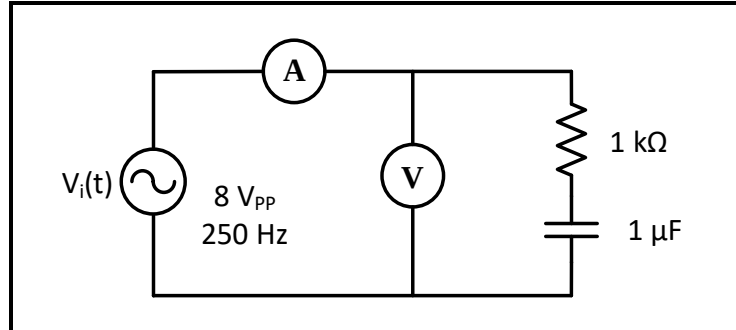

Figure 9.10
4. Connect the circuit in Figure 9.10, set V_{in} to sinusoidal voltage at $8 V_{PP}$, and $f = 250$ Hz.
a. Repeat steps (a) and (b) in (1) for the circuit in Figure 9.10 record results in Table 9.4.